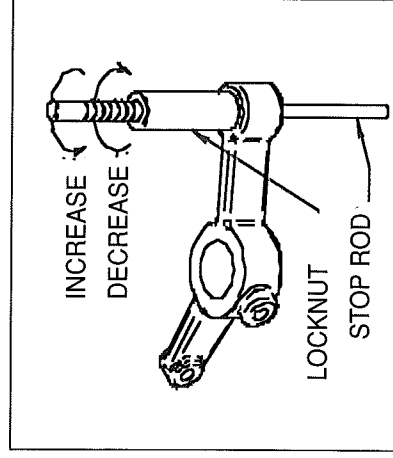

Figure 4
1. Your new Dutchess Divider/Rounder comes equipped with a "fixed pocket" design. Experimentation will be required to determine the correct pocket height for each size dough ball. To increase the pocket height, loosen the locking nut by turning counter clockwise. Turn the stop rod clockwise to decrease pocket height (for smaller rolls) and counter clockwise to increase pocket height (for larger rolls). Retighten locking nut before rounding by turning clockwise. See Fig 4.